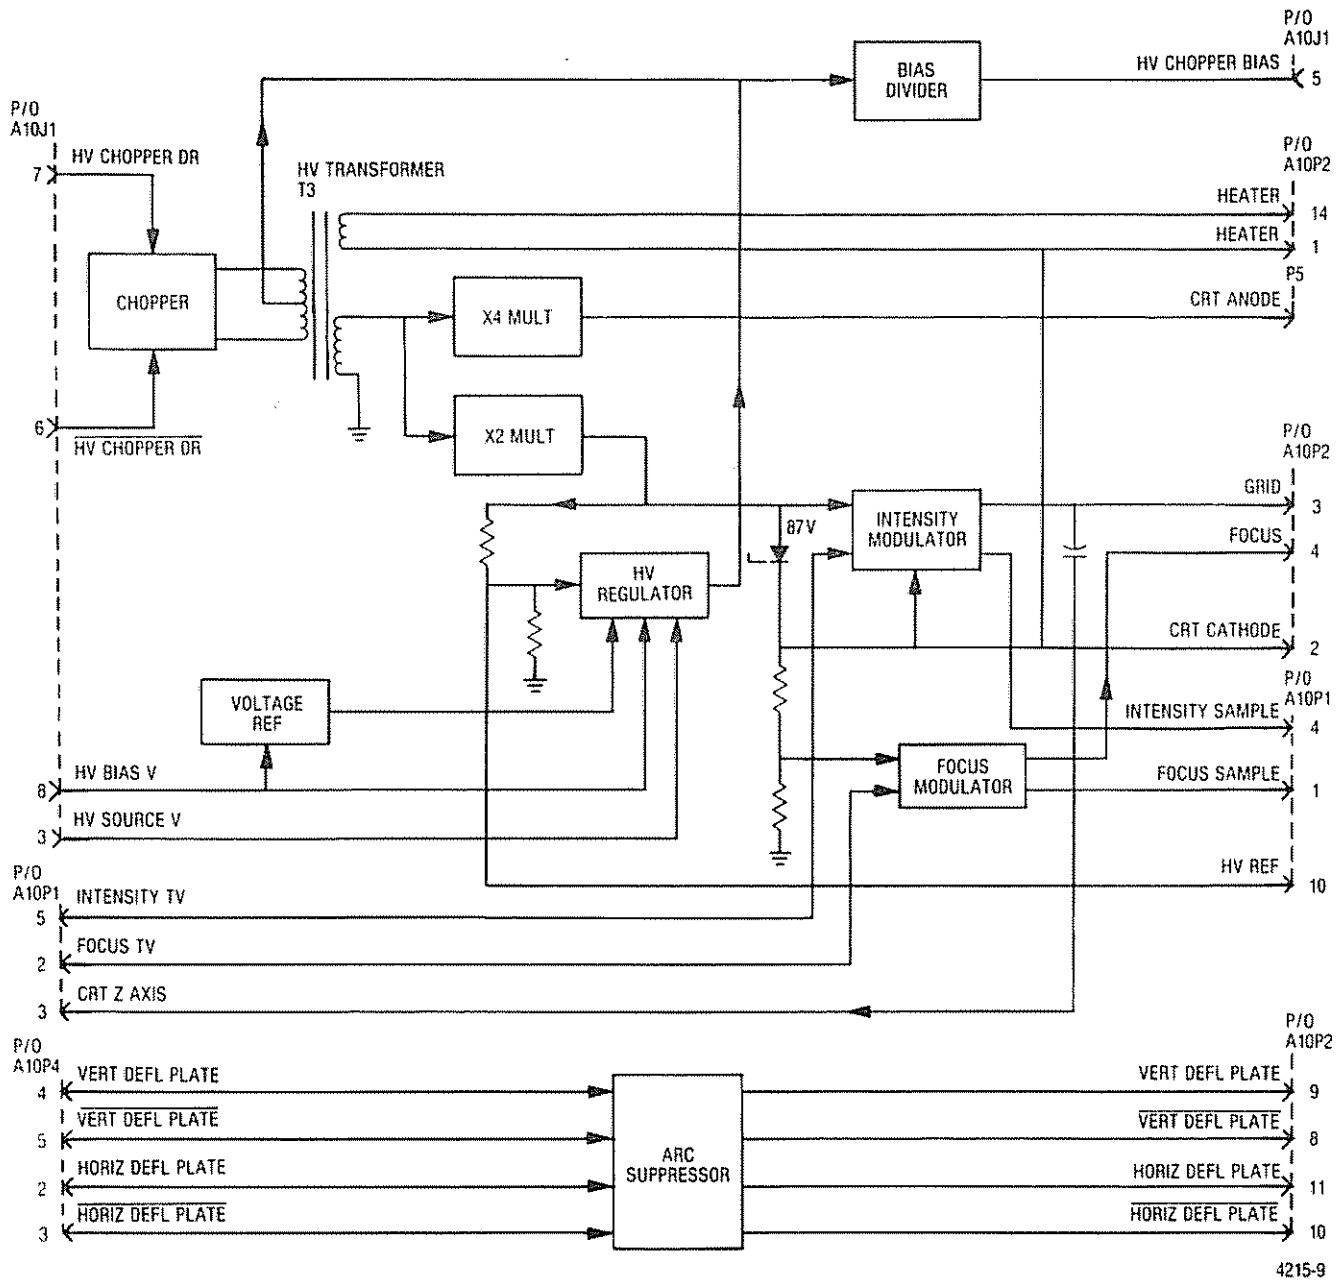

Figure 16-1. High Voltage Power Supply A10 Block Diagram
**16-1. GENERAL.** CRT bias and drive voltages are provided by the high voltage power supply. The power supply converts a nominal 15 VDC input to output voltages of +4 kV and a -2 kV. In addition, control circuits for the CRT focus and intensity grids are contained in this power supply. The high voltage power supply block and schematic diagrams are shown in figures 16-1 and 16-2, respectively.